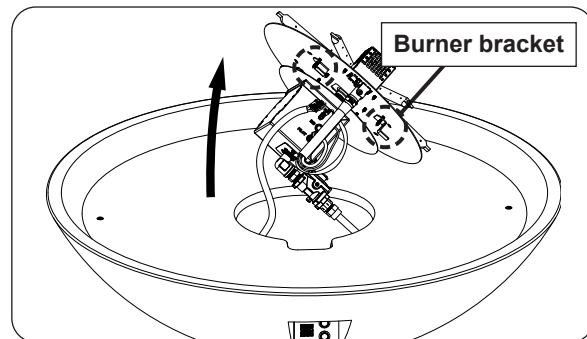

Fig. 43-1 Remove burner assy (if needed)
1. The burner will need to be removed. Remove all media. Use a $\frac{5}{16}$ " nut driver to partially unfasten the 4 screws found on the burner assembly. Then carefully remove the burner and set it off to the side. See Fig 43-1.